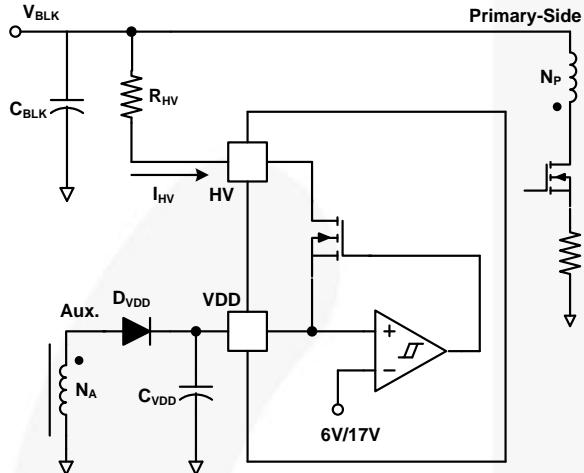
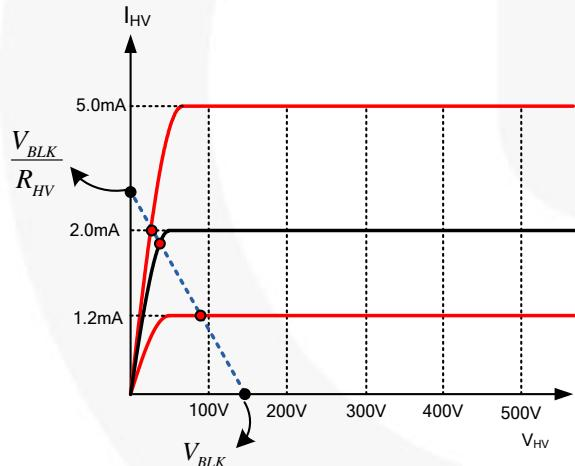

Figure 31. HV Startup Circuit
Figure 32. V-I Characteristic of HV Pin
Figure 31 shows the high-voltage (HV) startup circuit for FAN501 applications. The JFET is used to internally implement the high-voltage current source (see Figure 32 for characteristics). Technically, the HV pin can be directly connected to voltage (V_{BLK}) on an input bulk capacitor. To improve reliability and surge immunity, however, it is typical to use a ~ 100 k Ω resistor between the HV pin and bulk capacitor voltage. The actual HV current with a given bulk capacitor voltage and startup resistor is determined by the intersection of $V-I$ characteristics line and load line, as shown in Figure 32.